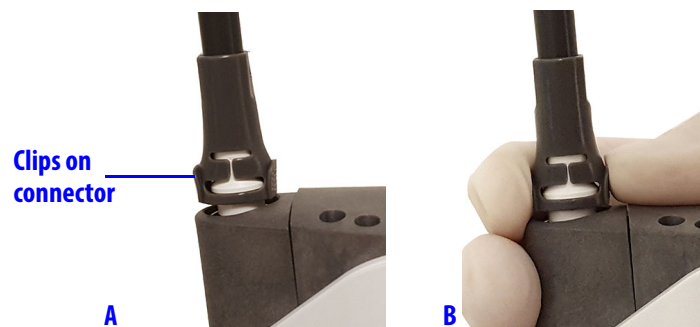

Figure 3.9 Press the clips on the connector
1. Press the clips on both sides of the sheath connector and push up to disengage from the flanges on the base of the instrument shaft (Figure 3.9 B).